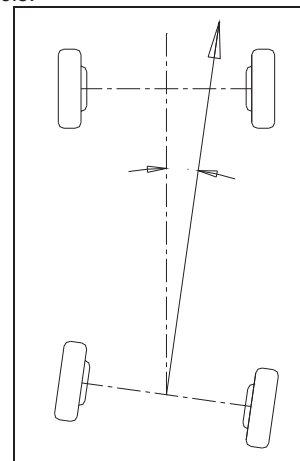

Fig.1.5
- Rear wheel driven: the thrust angle equals half of the toe-in difference between the two rear wheels. As shown in Fig.1.5.